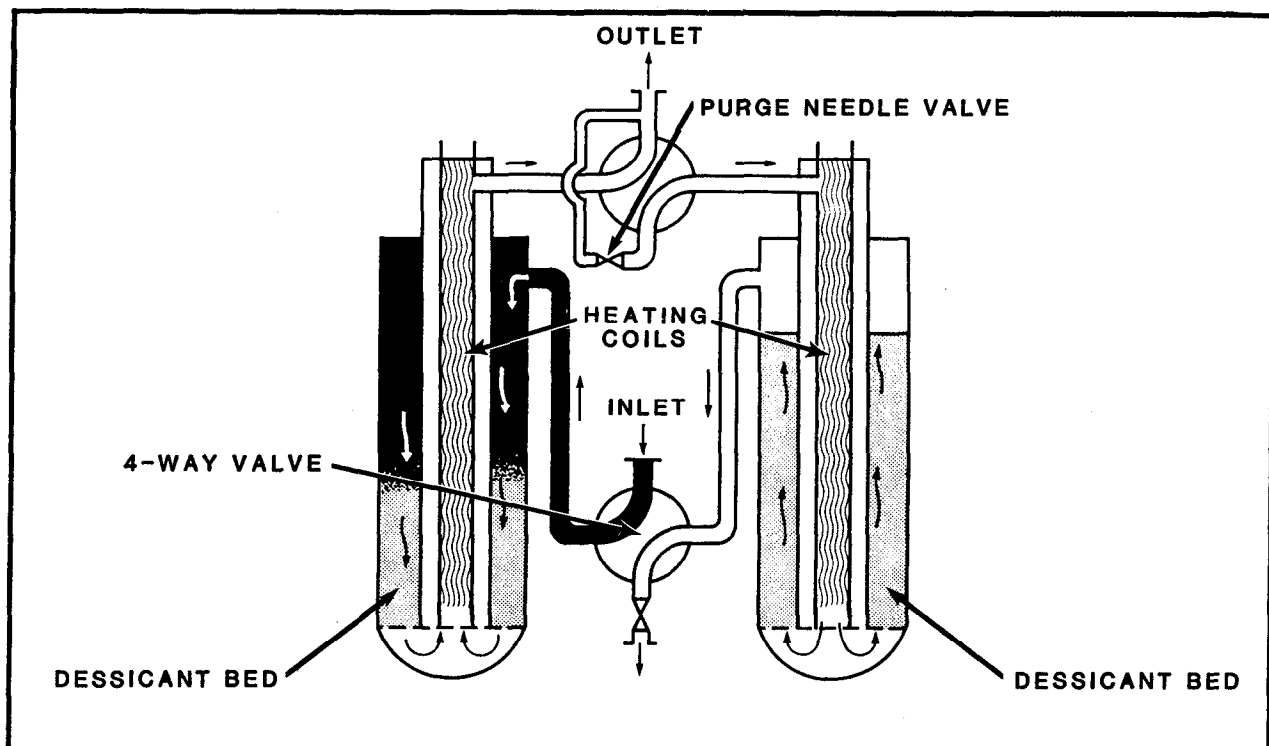

FIGURE 4-9. Flow Diagram of Electric Reactivated Adsorption Dryer
2.1 Adsorption Type. The adsorptive or desiccant dryer contains a bed of an inert desiccant material, either silica gel or activated alumina, which has high adsorptive surface area for a given weight and volume. This area is in submicroscopic cavities that can hold water vapor removed from the air. When the adsorptive desiccant is completely saturated with water, the water can be driven off again by heating. An airstream passed through the desiccant will carry away the released water vapor restoring the desiccant to its initial adsorptive condition. Adsorption type dryers (figure 4-9) generally consist of two drying towers, each containing an adsorbent, plumbed in parallel. The dryer towers are cycled either manually, semiautomatically, or automatically, so that one drying tower is on stream while the other tower is being reactivated. Reactivation is accomplished by means of electric or steam heaters embedded in the adsorbent or by passing dried process air through the unit.